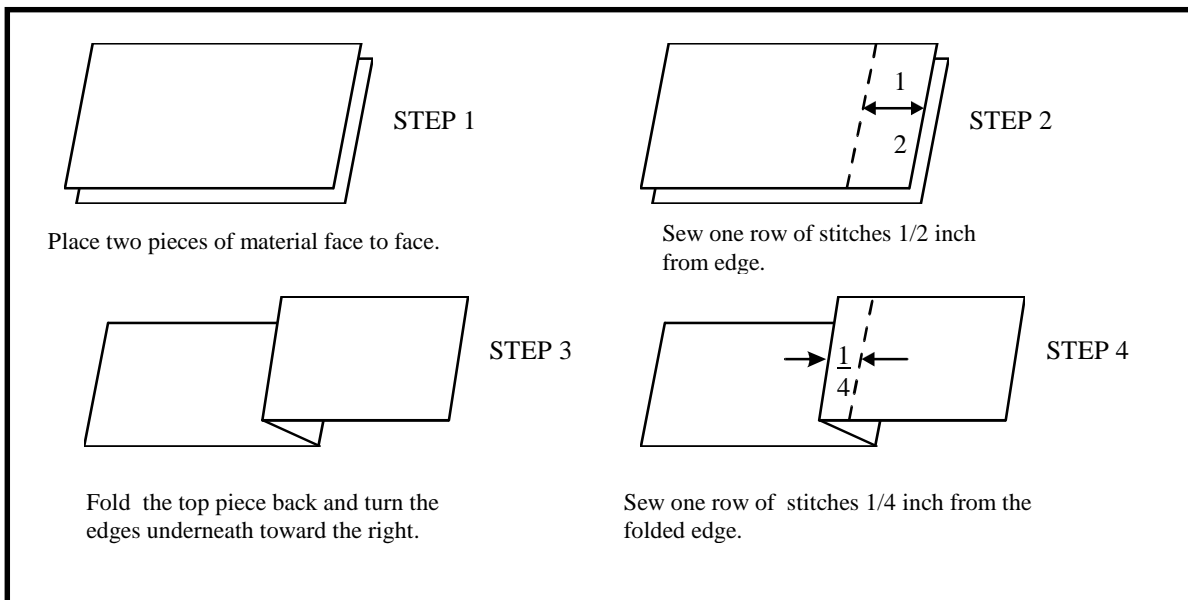

Figure 3-11. Seam type 3
d. Seam Type 3. Seam type 3 (Figure 3-11) is a welt seam. It is a strong seam used to sew pockets, sleeves, and main seams in heavy garments. This seam is also used to replace pocket flaps and to attach a zipper to the right side of a fly front. Seam type 3 is a combination of the simple seam and seam type 2. To make seam type 3--
(1) Cut an 8- by 8-inch piece of material into two pieces 4 inches by 8 inches.
(2) Place the two pieces of the material on the table face to face.
(3) Mark the top piece of material 1/2 inch from edge (on the 8-inch edge) across the length of material.
(4) Make certain both edges of the material (top and bottom pieces) are even at the marked edge.
(5) Sew the two pieces of material together with a simple seam, following the markings made 1/2-inch from the edge.
(6) Tack the stitch lines at both ends with a 1-inch tack (no less than 7/8-inch, or no more than 1 1/8 inches).
(7) Fold the top piece of the material to the right, and sew a row of stitches 1/4 inch to the right of the simple seam.
(8) Tack both ends of the seam with a 1-inch tack.
(9) Press the seam area flat with an iron.